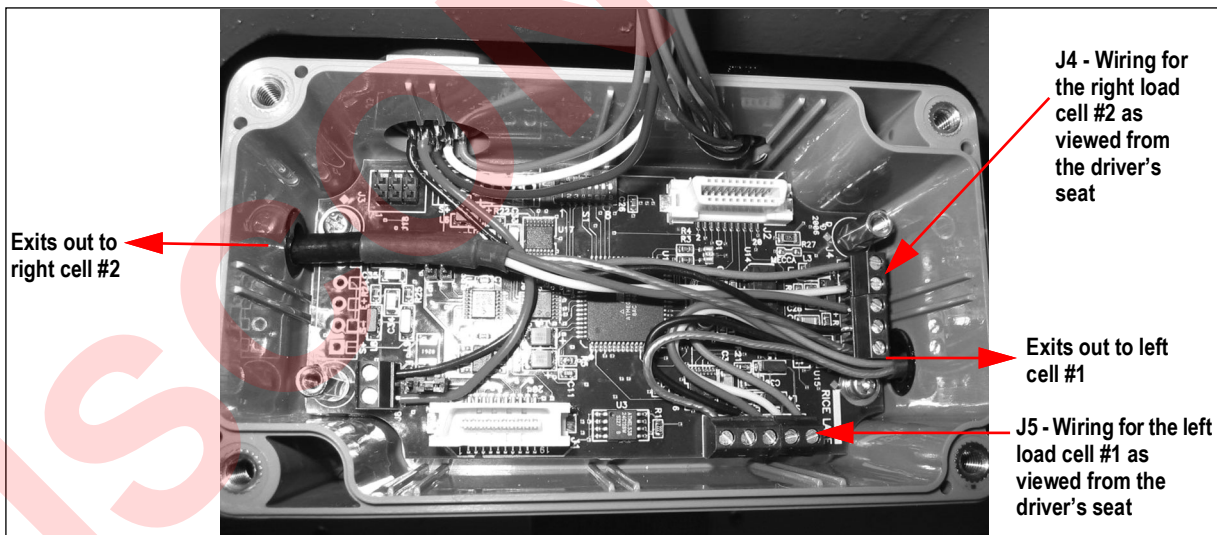

Figure 4-16. Bottom Board Wiring
Note The bottom board which is shown in Figure 4-16 connects the wiring for both load cells one and two. Table 4-10 lists the wiring assignments for the bottom board.
7. Reconnect the wires to the bottom board per Figure 4-16 and Table 4-10.